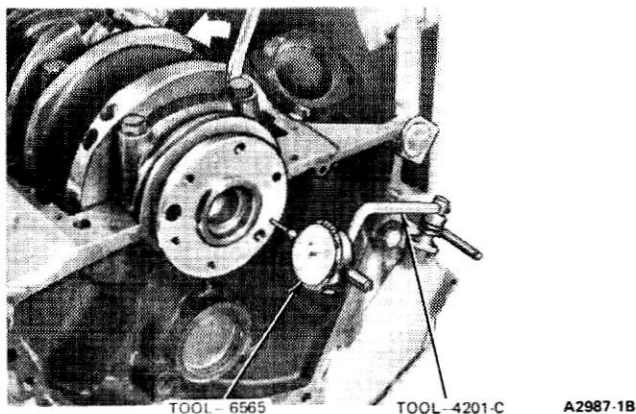

FIG. 17 Checking Crankshaft End Play
2. Install a dial indicator so that the contact point rests against the crankshaft flange and the indicator axis is parallel to the crankshaft axis (Fig. 17).